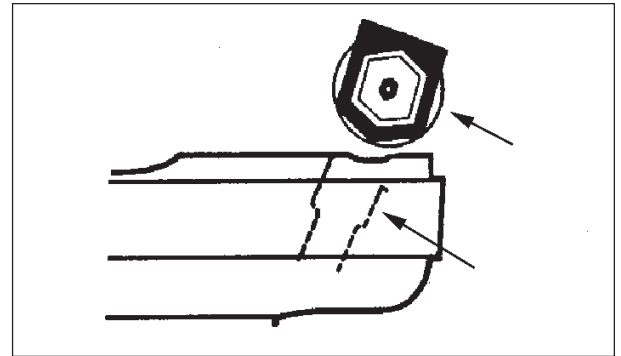

Figure 6
- Place the rubber end cap covers over both end caps (flat side against end cap). Align holes and secure. Then, slant the brush roll forward so the end caps are in line with the slots in the cleaner base. Push the brush roll into the base until seated. See figure 6.